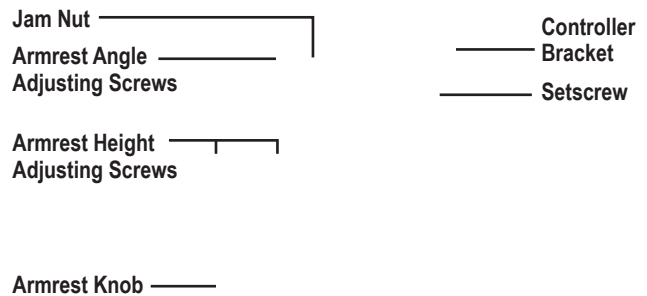

Figure 14. Seatback/Armrest Adjustment
1. Remove the adjusting screws from each seat hinge. **See figure 14.**
1. Locate the two armrest knobs on each side of the armrest receiver bracket. **See figure 14.**
1. Lift the armrest straight up so that it is perpendicular to the floor. **See figure 14.**
1. Loosen the two setscrews located on the armrest receiver. **See figure 14**
2. Loosen the setscrew on the controller bracket. **See figure 14.**